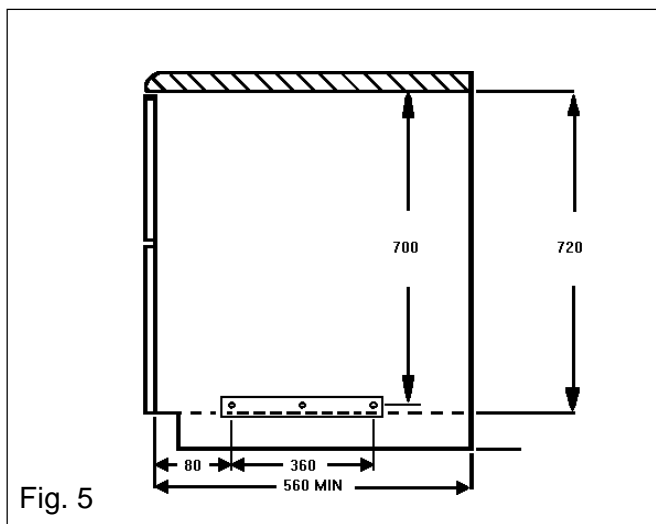
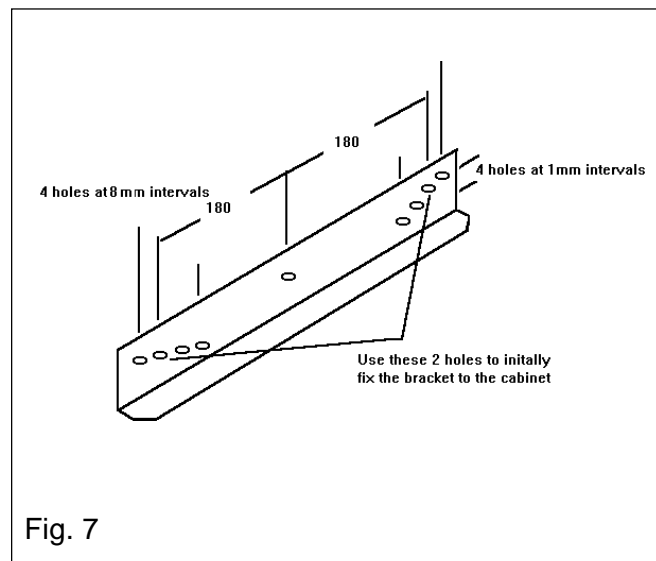

Fig. 5
Fig. 7
- Make sure the space between the cabinets is the correct size for the appliance to be fitted (Ref. Fig. 5 & 6).
- Drill two pilot screw holes into the sides of the adjacent cabinets, in the positions indicated by Fig. 5.
- Fit the appliance mounting brackets using the two holes indicated in Fig. 7 to the adjacent cabinets ( Ref. Fig.5 & 6 )